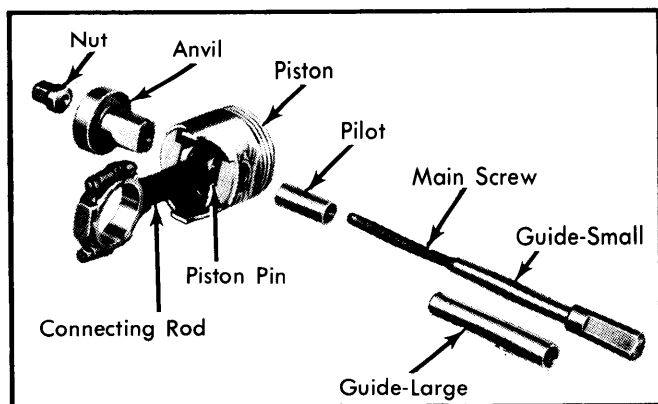

Fig. 8 Piston Pin Removal
2) Install pilot on main screw. See Fig. 8. Fit screw through piston pin. Install anvil, with spring removed, over threaded end of main screw. Make sure small end of anvil is against piston boss.